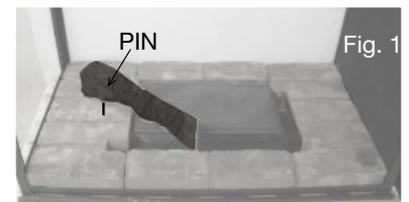

Fig. 1
2. Place a pin into the bottom of log #1 lining it up with the hole in the hearth pad. Then place onto the screw and spacer located in the corner of the burner, on the right side. Place a pin into the center of log #1, as shown in Figure 1.